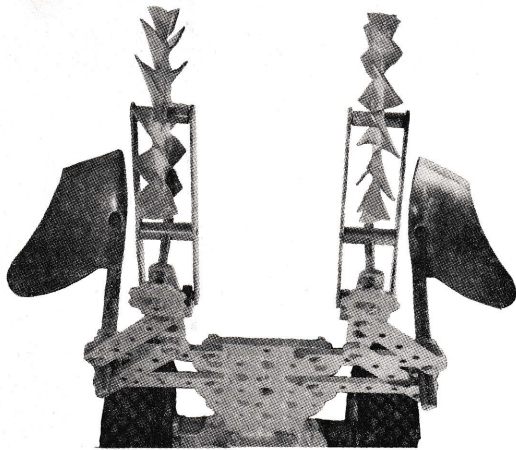

Figure 2
**Six-inch Hiller Set-Up** uses right and left Hillers; these can be used for closing rows as well as for the hilling. Hillers can be used to throw dirt away from or around the plants as desired. A furrower, available in 10 or 12-inch depths, can be used with the Hillers to bring dirt from the center of the row to the Hillers, which in turn throw dirt around the plants. (Figure 2).